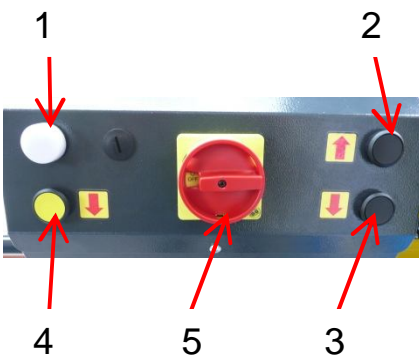

Fig.16
**6. BEDIENING EN GEBRUIK (Fig.16)**